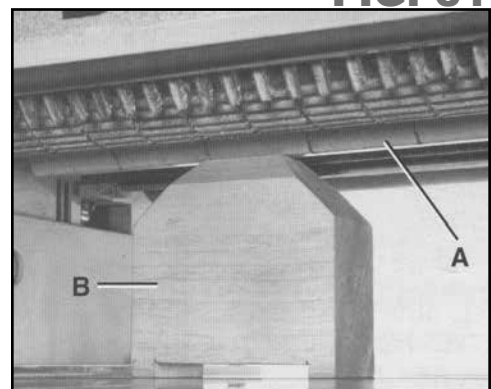

FIG. 31
4. Move gauge block (B) Fig.31, directly under the chipbreaker (A) as illustrated. The bottom of the chipbreakers (A) Fig.31, should slightly touch the gauge block (B).